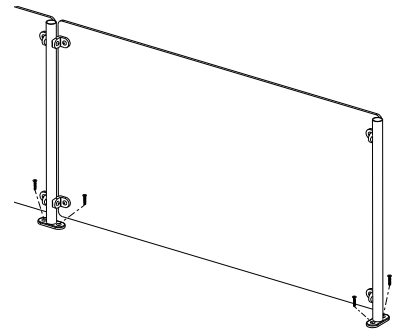

Figure 1. By placing the food shield on the base unit, hole locations can be marked.
1. Set food shield on base unit. See Figure 1.